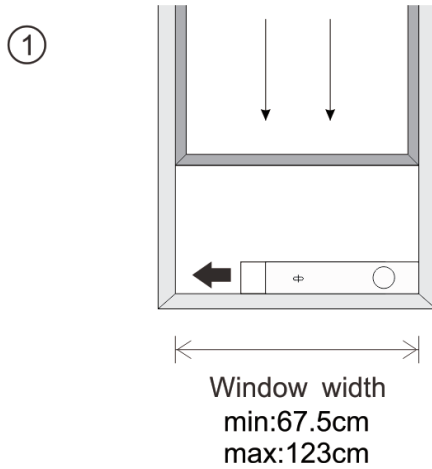
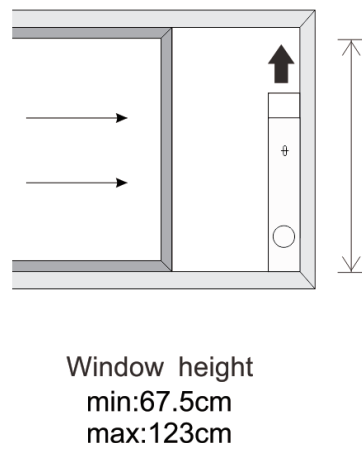

Fig.10
Fig.10a
The installation manner of window slider kit is mostly in “horizontal” or “vertical”. As shown Fig.10 and Fig.10a, check the min. and max. size of the window before the installation.
1. Install the window kit on the window (Fig.10, Fig.10a);